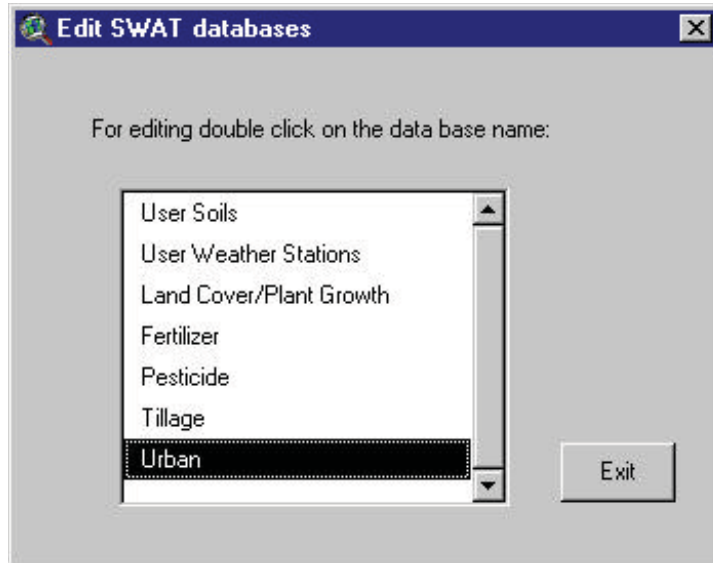

Figure 14.68
1. Double-click **Urban** on the list of databases (Figure 14.68).